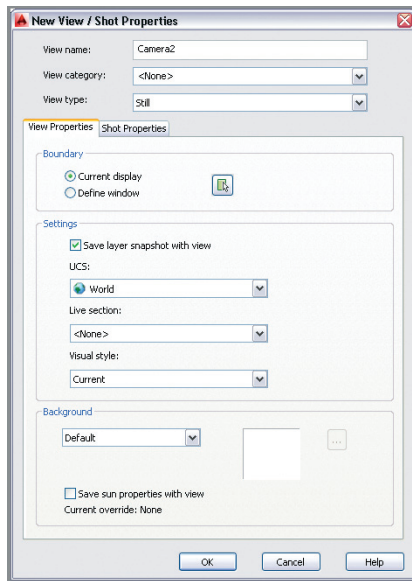

FIGURE 16.22 Saving a new view
3. In the New View / Shot Properties dialog box that appears, type **Camera2** as the view name (see Figure 16.22). Click OK twice to close both open dialog boxes.